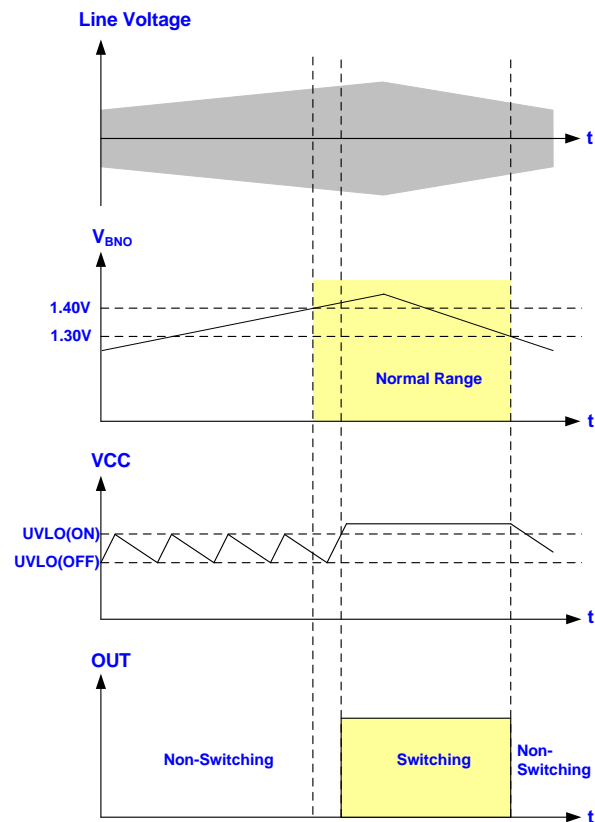

Fig. 22
The LD5537 is programmable for the brownout protection point though BNO pin. The voltage across the BNO pin is proportional to the bulk capacitor voltage, referred as the line voltage. A brownout comparator is implemented to detect the abnormal line condition. As soon as the condition is detected, it will shut down the controller to prevent the damage. Fig. 22 shows the operation. When VBNO falls below 1.30V, the gate output will remain off even as VCC achieved UVLO(ON). It therefore makes VCC hiccup between UVLO(ON) and UVLO(OFF). Unless the line voltage is large enough to pull VBNO over 1.40V, the gate output will not start switching even when the next UVLO(ON) is tripped. A hysteresis is implemented to prevent the false trigger during turn-on and turn-off.